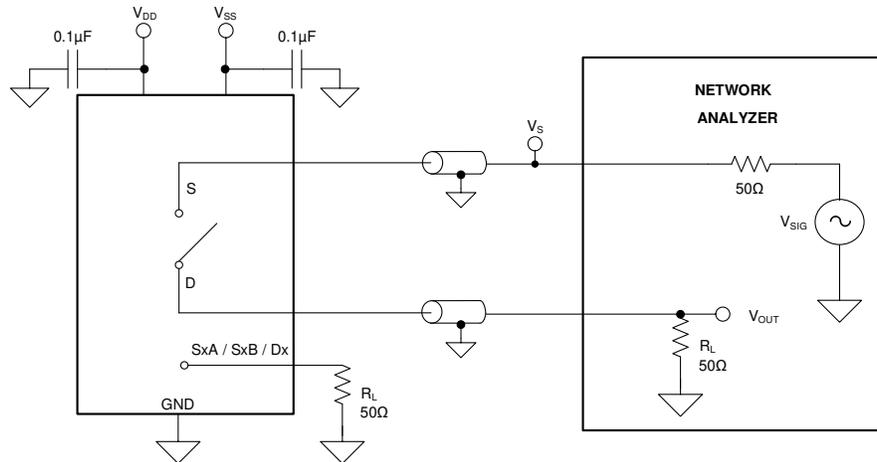

Figure 7-8. Off Isolation Measurement Setup
Off isolation is defined as the ratio of the signal at the drain pin (D) of the device when a signal is applied to the source pin (Sx) of an off-channel. Figure 7-8 shows the setup used to measure, and the equation used to calculate off isolation.